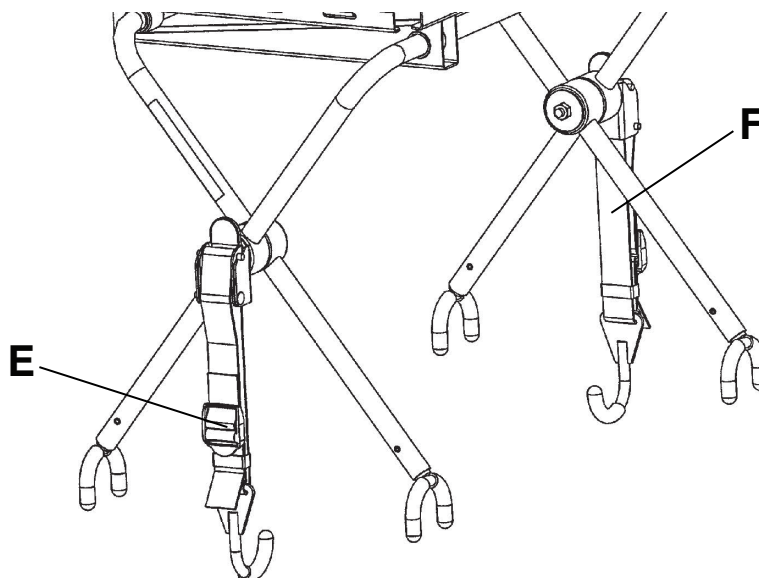

Figure 20 – Attach defibrillator platform to the cot
9. Secure the straps (E) to hold the defibrillator on the defibrillator platform (Figure 20).